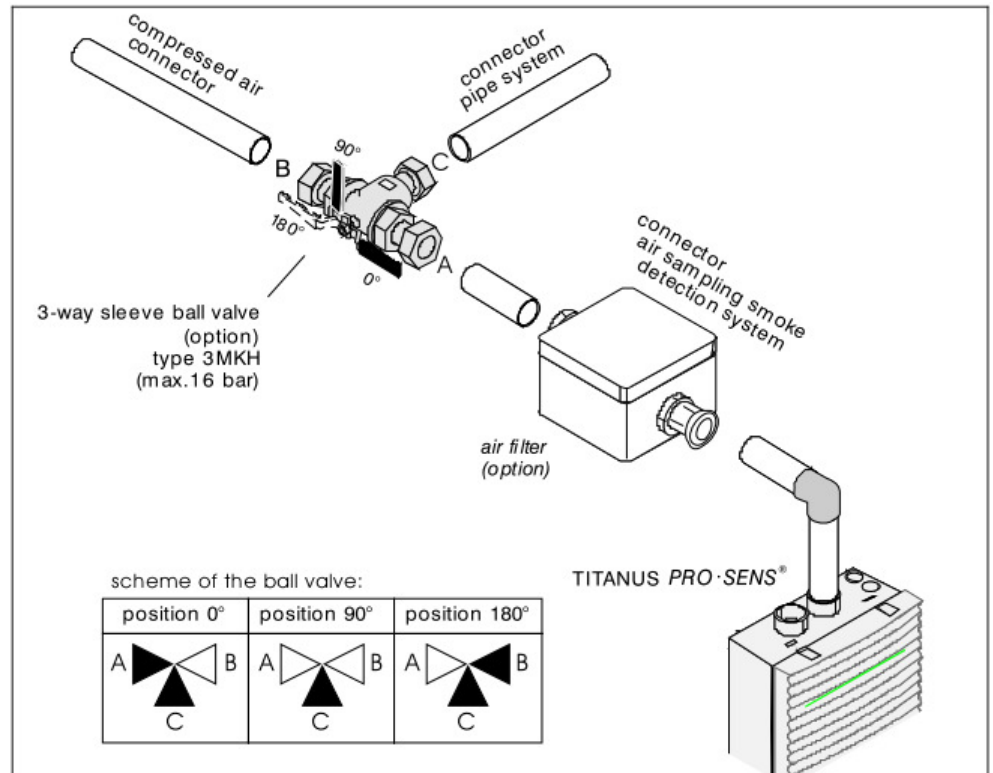

Fig. 6.11: Installation of 3-way ball valve
**Connections** During installation pay attention to the correct connectors (refer to scheme in Fig. 6.11):
2. Separate the pipe system to be blown-through via the 3-way socket ball valve from the relevant device by re-setting the ball valve from 0°- operating position to 180°(see fig. 6.11).